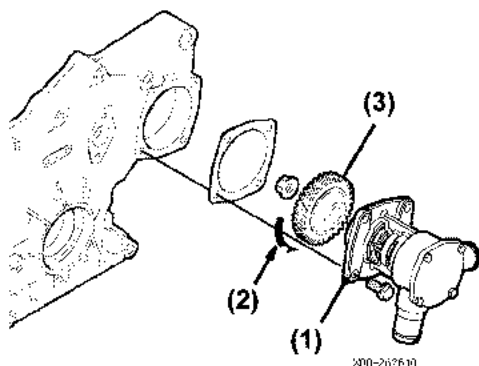
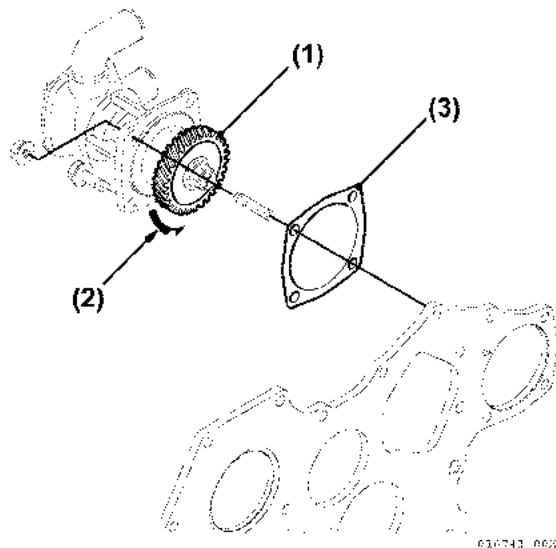

Figure 7-33
Figure 7-34
The seawater pump is driven by the gear (Figure 7-33 (3)), (Figure 7-34 (1)).
1. Drain the seawater by loosening the bolts of seawater pump side cover (Figure 7-33, (1)).
3. Remove seawater pump drive gear (Figure 7-34, (1)).